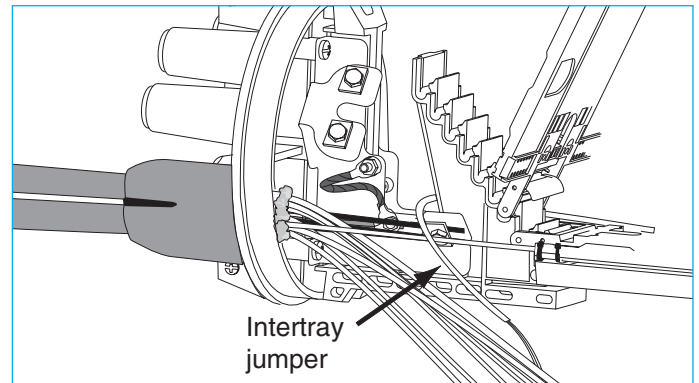

Figure 37.
10.5.4 Guide the jumper through the opening in the tray mounting bracket to the appropriate destination tray and position it in the tray. (Figure 37)